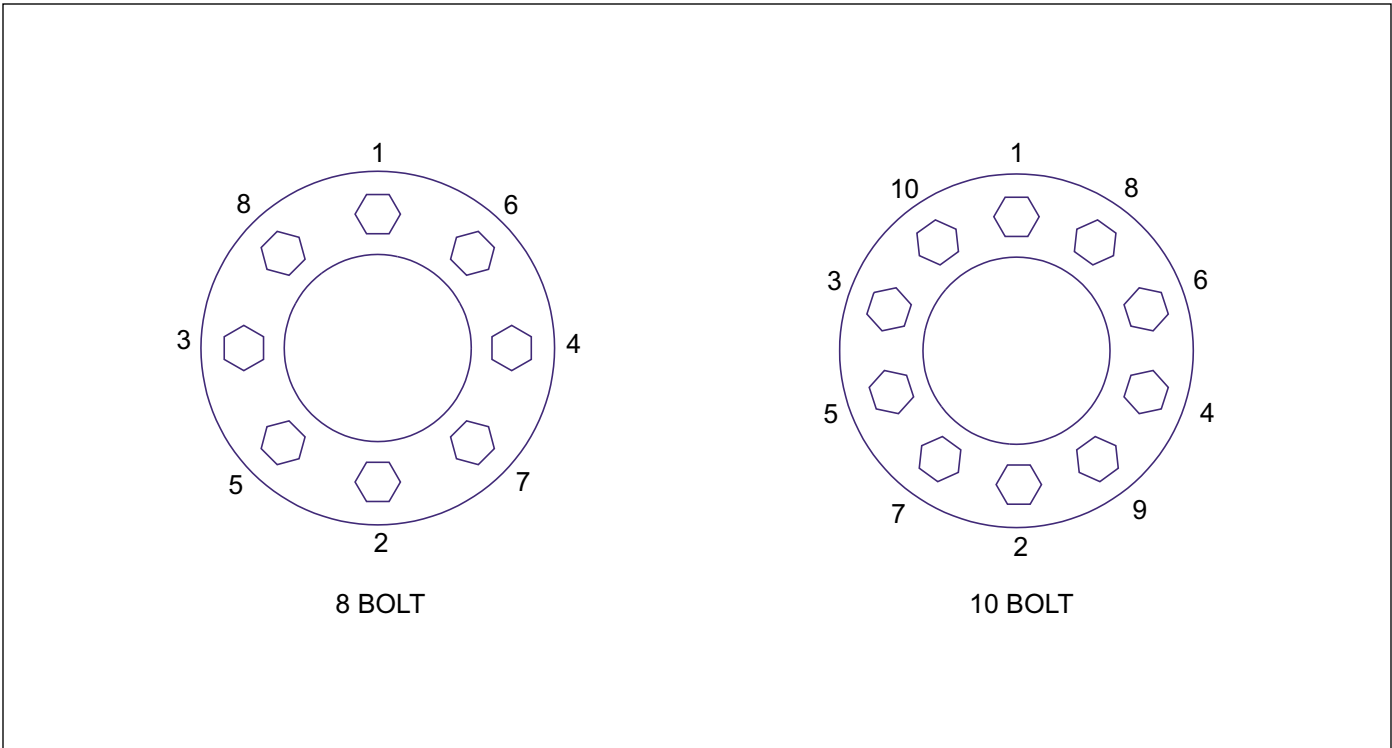

Figure 4-19: Stud Tightening Sequence
4. Install the flange nut and tighten to 50 foot-pounds using the sequence in Figure 4-19. Then tighten to full torque of 500 to 550 foot-pounds.